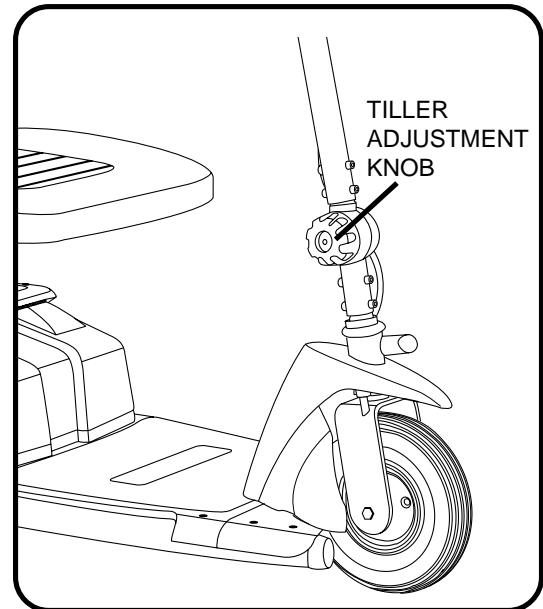

Figure 9. Tiller Adjustment
1. Turn the tiller adjustment knob counterclockwise to loosen the tiller. **See figure 9.**